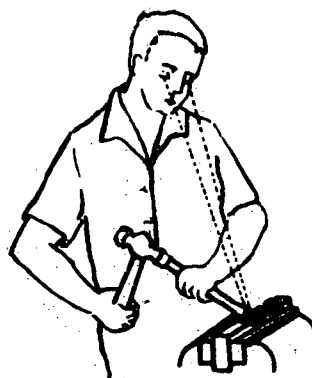

Fig. 9
- c) Strike the head of the chisel with the hammer, while watching carefully how the chisel is cutting (Fig. 9).